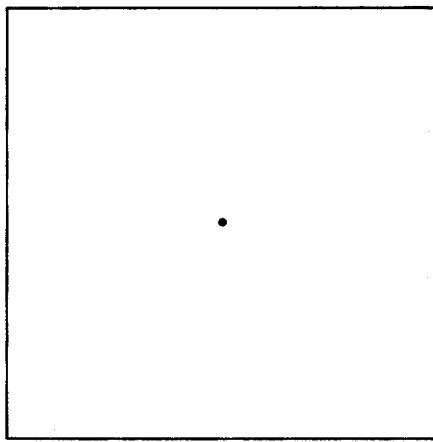

FIGURE 3-22. FUNCTIONAL CHECK
c. Compare the plot obtained with Figure 3-22. The perimeter of the rectangle plotted should be located within each quadrant as indicated. Program should end with the pen up, positioned in the center as was set in paragraph 3-52. IMPROPER DATA light should be on.